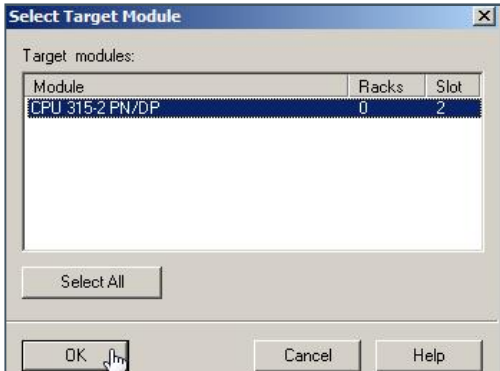

Figure 38: Select the target CPU unit
- 2) Select the CPU unit and click **OK** (see: Figure 38: Select the target CPU unit).